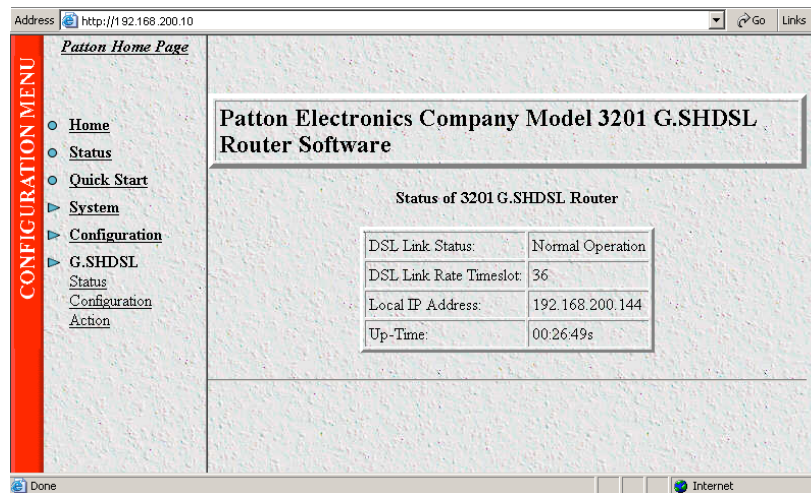

Figure 7. Model 3201 home page
6. Log in and perform any desired configuration changes through the G.SHDSL Router's web browser interface (see Figure 7).